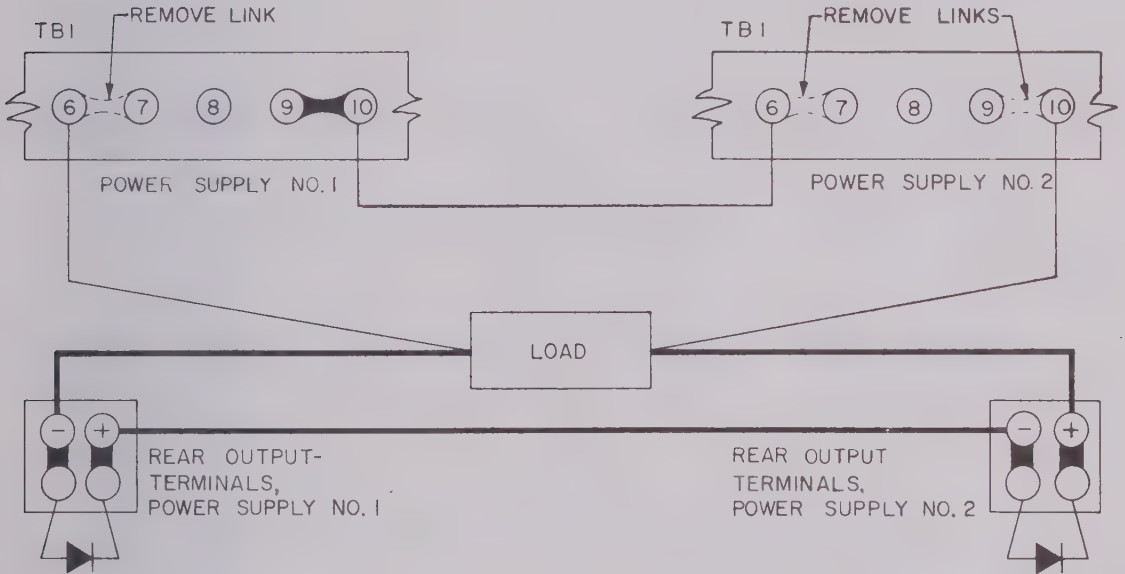

FIG. 3-10 CONNECTION FOR IN-SERIES OPERATION
- Connect load to power supplies as shown in Fig. 3-10. Keep voltage drops in the load wires as low as possible by selecting the gauge as heavy as practicable.